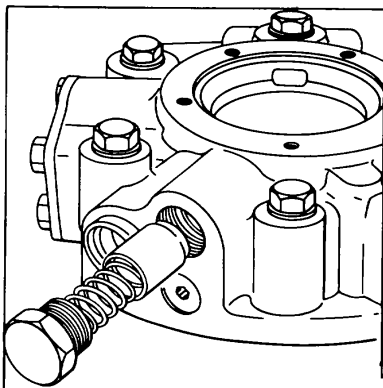

Figure 225.
26. Inspect low pressure relief valve plunger (61) for scratches, nicks or burrs. Burnishing of the plunger at the point of contact with the seat is normal. If wear can be felt, replace the plunger (61). Install the plunger (61), spring (62), a new O-ring (17), and relief valve plug (73). See Fig 225.